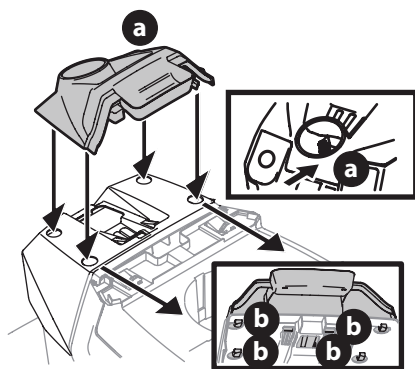

Figure 7
- To install the dash cap (a), line up the tabs (b) on the dash cap (a) with the holes in the upper dash (Figure 7).
- Slide the tabs (b) into the holes in the upper dash and push forward on the dash cap (a) to lock into place (Figure 7).
NOTE: Be sure to press on the lower part of the dash cap (a) facing the operator position to ensure the lower tabs on the dash cap are in place (Figure 7).